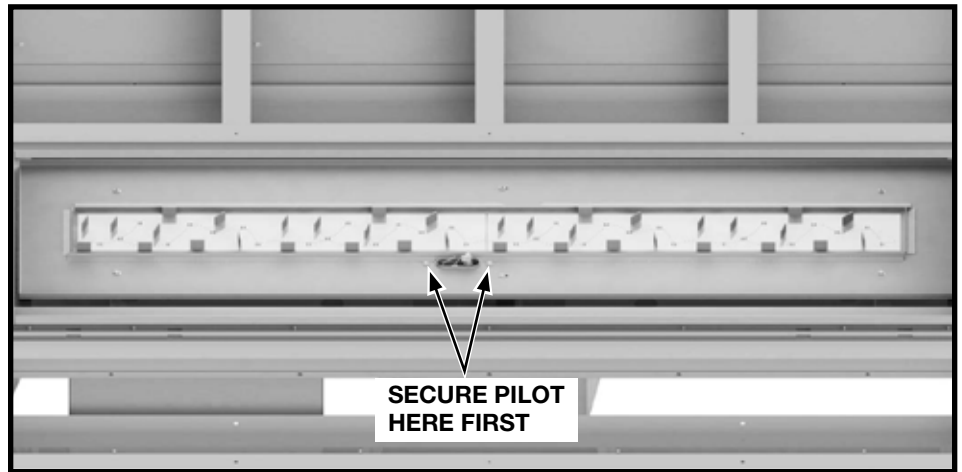

Figure 47: ng04 Securing pilot.
6. Install burner tray as shown in Figure 47 using 8 screws. Secure tray around pilot first then the other 6 screws.